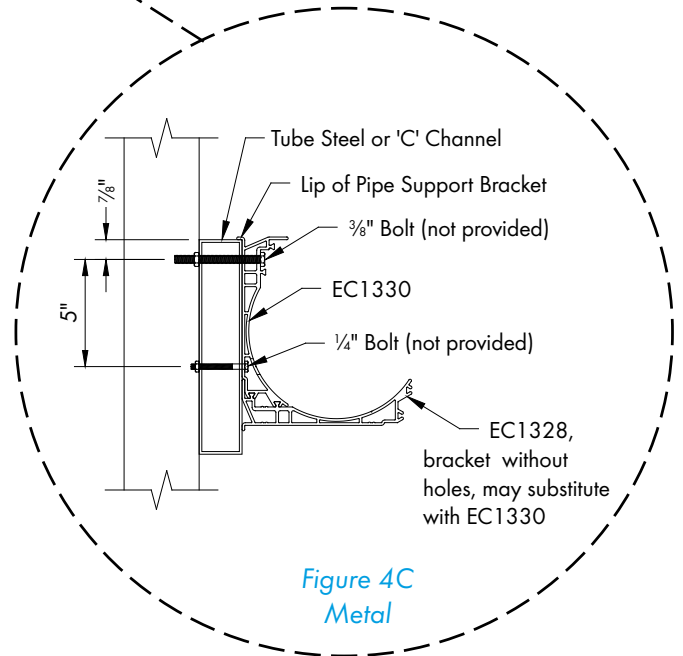

Figure 4C
**NOTE:** If metal framing is required, replace all 2x treated framing with 'C' channel or tube steel. Framing should be Aluminum or painted galvanized. *See Figure 4C* on page 7.